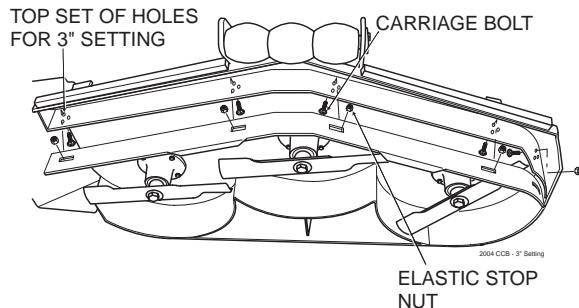

Figure 9. 3" Custom-Cut Baffle Position
- A. 3" Position - baffle is installed using the top set of holes on the front baffle welded inside the cutter deck. (See Figure 9). The Advantage cutter deck will deliver the best quality-of-cut in very tall, wiry, tough to cut grass.
2. Move the Custom-Cut Baffle to desired position. (See Figures 9 through 11 for position)
3. Reinstall the mounting hardware as shown. (See Figures 9 though 11). Torque hardware to 39ft.lbs.